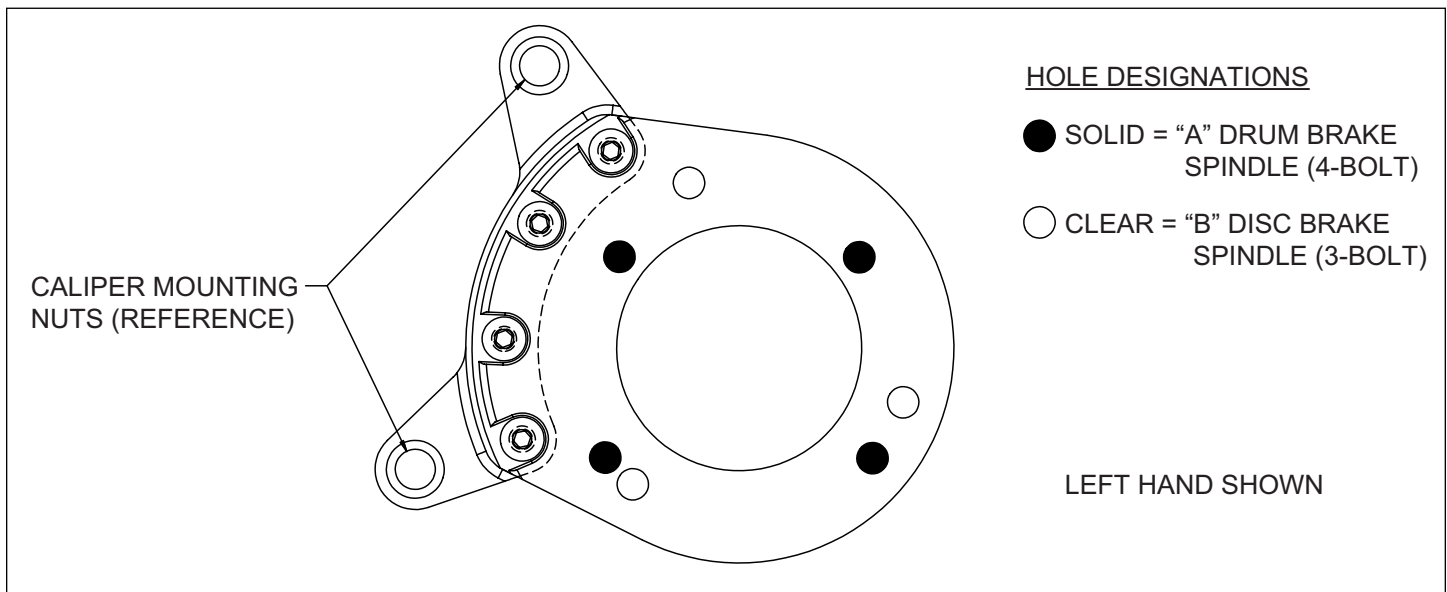
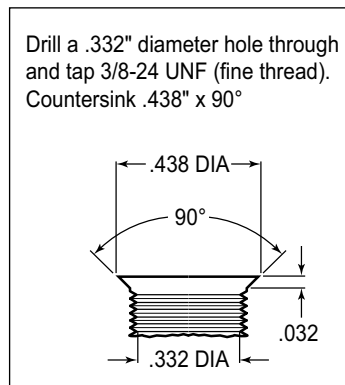
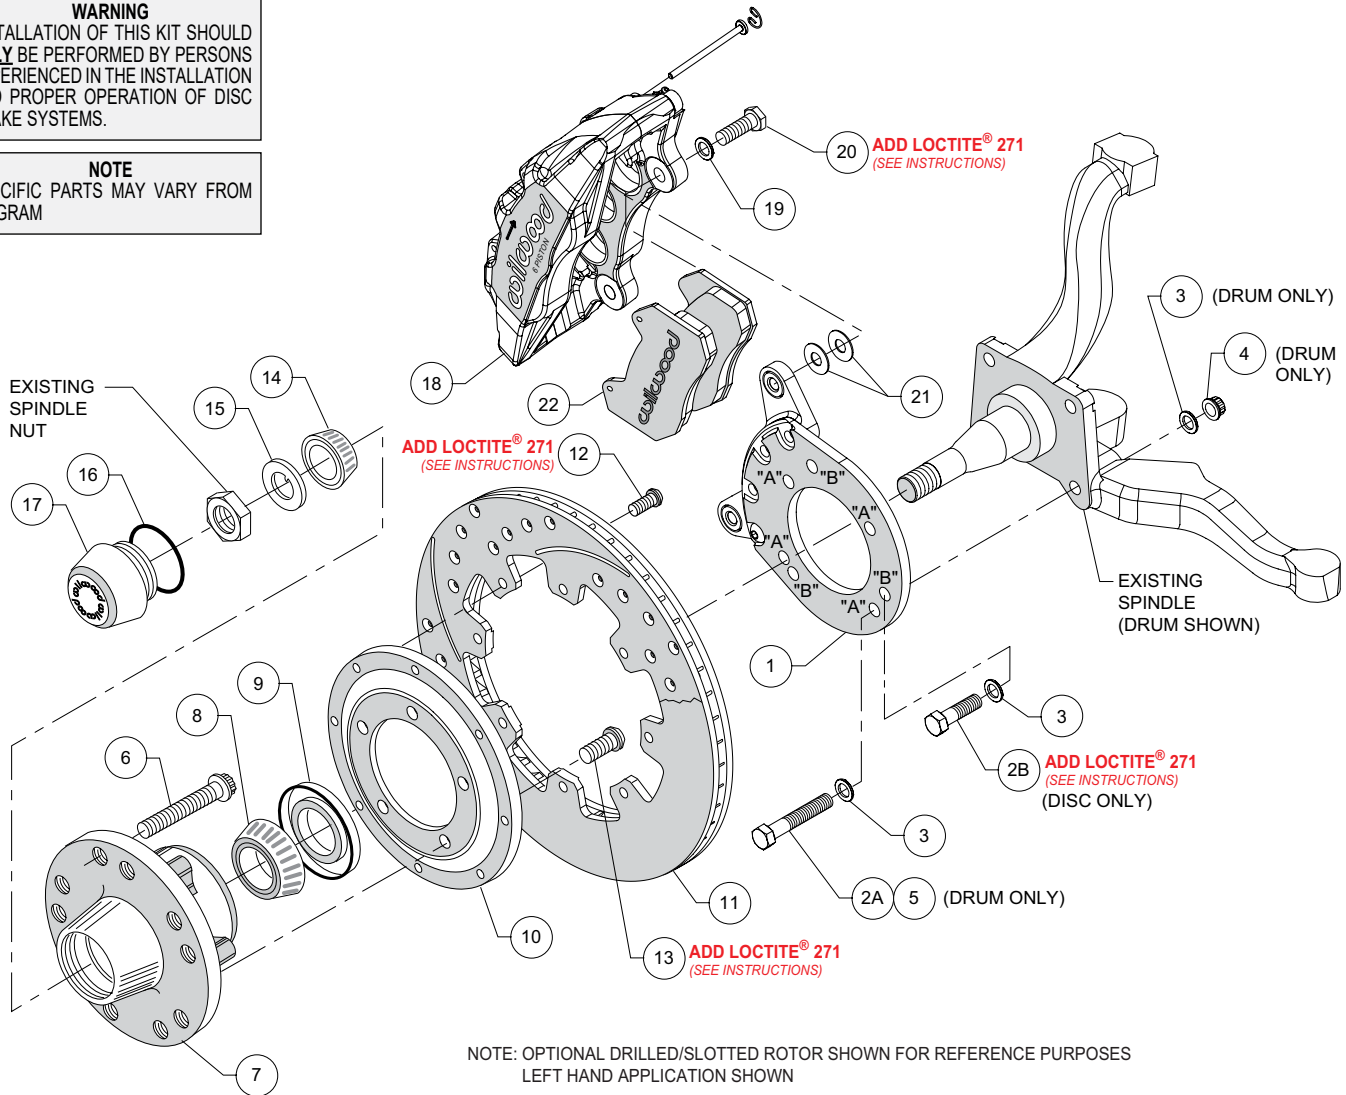

Figure 1. Wilwood Caliper Mounting Bracket
Figure 2. Drill and Tap Detail
Figure 4. Typical Installation Configuration
This kit has been designed for use with both the disc brake or the drum brake configuration of vehicle. The only difference is in how the Wilwood caliper mounting bracket is installed. The same bracket is used for both configurations; the disc brake version utilizes three mounting holes while the drum brake application uses four mounting holes (see Figure 1). For your convenience we have supplied bolt kits for both applications (see parts list and Figure 4 as necessary). Use the bolt kit that is applicable to your vehicle and disregard the other one.
NOTE: This modification should be performed by a qualified machinist and completed before assembly of the Wilwood disc brake kit begins. Using the caliper mounting bracket as a template (refer to Figure 1 as necessary), locate and verify the three original holes on the spindle that need to be modified. Drill a .332" diameter hole through all three holes, then tap 3/8-24 UNF (fine thread). Countersink the holes to .438" diameter x 90°, as shown in Figure 2.
NOTE: Numbers in parenthesis refer to the parts list on the preceding page and Figure 4.
NOTE: This kit uses the same mounting bracket (1) for both the drum and disc brake spindles. The drum version, Photo 1, uses four mounting bolts (designated "A"), while the disc version, Photo 2, uses three (designated "B"). Refer to Figures 1 and 4 for the basic installation position of the bracket and the "A" and "B" reference designations (not physically marked on the brackets).
For Drum Spindle: Align bracket, using the four "A" holes, to the face of the spindle and attach using bolts (2A and 5), washers (3), and lock nuts (4), as shown in Figure 4. Ensure that the flanged heads of the clinch nuts in the bracket are facing outboard, Photo 1. Torque nuts to 30 ft-lb.
For Disc Spindle: Align bracket, using the three “B” holes, to the face of the spindle and attach using bolts (2B) and washers (3), as shown in Figure 4. Finger tighten. Ensure that the flanged heads of the clinch nuts in the bracket are facing outboard, photo 2. Remove bolts one at a time, apply red *Loctite*® 271 to threads, and torque to 40 ft-lb.
- Install wheel studs (6) into the hub (7), Photo 3. Torque to 77 ft-lb. **NOTE:** *There are two five lug patterns in the hub (5 x 4.50 and 5 x 4.75).* Ensure the correct hub stud pattern is being used to fit the wheel application.
- Pack the large inner bearing cone (8) with high temperature disc brake bearing grease (available from your local auto parts store) and install into the backside of the hub (7), Photo 4.
- Install the grease seal (9) by pressing into the backside of the hub (7), flush with the end of the hub, Photo 4.
- Orient the rotor (11) and the rotor adapter (10) as shown in Figure 4 and Photo 5. Attach the rotor to the adapter using bolts (12). Using an alternating sequence, apply red *Loctite*® 271 to the threads, and torque to 25 ft-lb.
- Mount the adapter/rotor assembly (10/11) to the hub (7) using bolts (13), as shown in Figure 4 and Photo 6. Using an alternating sequence, apply red *Loctite*® 271 to the threads, and torque to 45 ft-lb.
- Pack the small outer bearing cone (14) with high temperature disc brake bearing grease and install into hub (7). Slide the hub/rotor assembly onto the spindle. Secure using spindle washer (15) and OEM spindle nut, Photo 7. Adjust bearings per OEM specifications. Install saved OEM nut lock (if any) and a new cotter pin (not included).
- Screw dust cap (17) into hub (7), Photo 8. Friction created by the o-ring (16) on the dust cap keeps it from unscrewing. **NOTE:** *The O.D. of the existing OEM spindle washer may be larger than the I.D. of the dust cap not allowing it to seat against the hub face. Therefore, use the spindle washer (15) supplied with the kit instead of the OEM washer.*
- NOTE:** *Please reference the caution statement at the beginning of the assembly instructions. This kit contains distinct right and left hand calipers that must be mounted in a specific direction, as described below.* Mount the caliper (18) onto the caliper mounting bracket (1) using bolts (20) and washers (19), as shown in Figure 4. Initially place two .035” thick shims (21) on each bolt between the caliper and the bracket, Photo 9. Ensure that the caliper is mounted so the largest pistons are at the rotor exit end of the caliper, in relation to the direction of rotor rotation. Temporarily tighten the mounting bolts and view the rotor (11) through the top opening of the caliper. The rotor should be centered in the caliper, Photo 10. If not, adjust by adding or subtracting shims between the bracket and the caliper. Always use the same amount of shims on each of the two mounting bolts. **NOTE:** *The end of each bolt must be flush with or slightly protruding from the head of the*
- Remove the two pad retaining pins from the caliper (18) by carefully popping out the pin retaining clips and sliding out the pins. Insert the brake pads (22) into the caliper from the bottom, Figure 4 and Photo 11, with the friction material facing the rotor. Secure the brake pads in place with the pad retaining pins and clips, Photo 12. Reinstall the caliper onto the caliper mounting bracket. Apply red *Loctite*® 271 to bolt threads (20), and torque to 40 ft-lb.